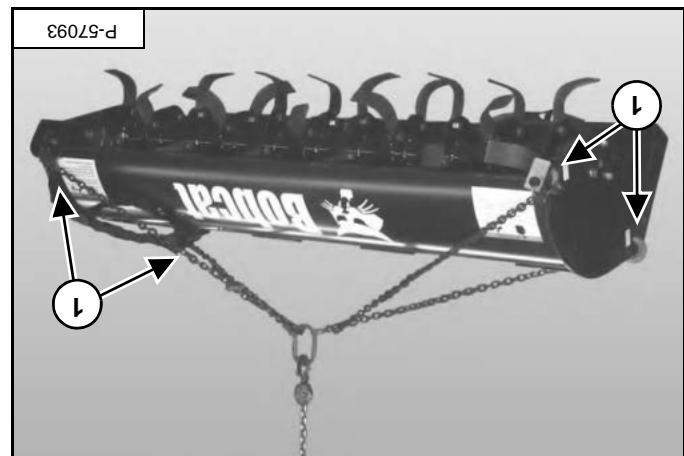

Figure 80
Install chains (item 1) [Figure 80] to the four lifting locations on the tiller (two on each end).